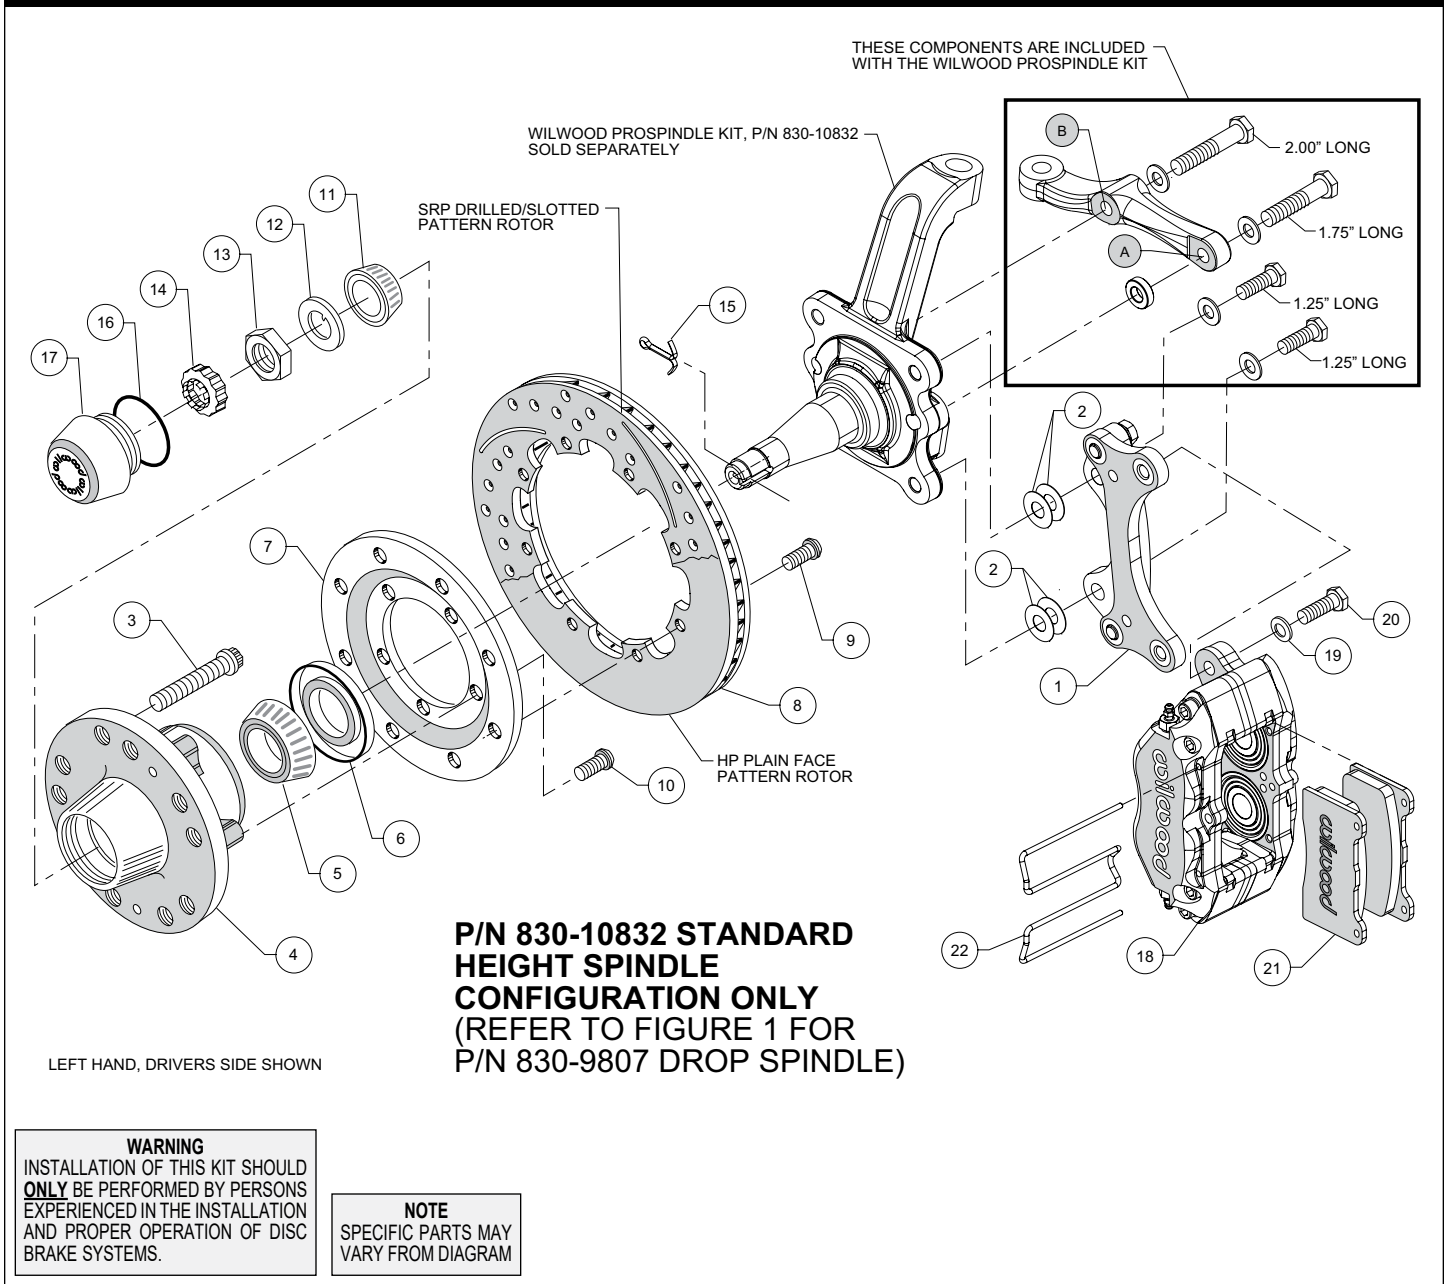

Figure 2. Installation Configuration For Standard Height Spindle, P/N 830-10832
**For Standard Height ProSpindle (P/N 830-10832):** The caliper bracket assembly (1) should initially be installed with clean, dry threads on the mounting bolts.
- Orient the bracket as shown in Figure 2 and Photo 2. Install using 1.25" long bolts and .06" thick washers (from ProSpindle kit), and two .016" thick shims (2) on each bolt between the bracket and spindle, Figure 2. Temporarily tighten mounting bolts.
- Orient the steering arm, and identify the hole marked 'A', as shown in Figure 2. Install using 1.75" long bolt, .06" thick washer, and .30" thick spacer (all from ProSpindle kit), Figure 2.
- Finish attaching the steering arm through the hole marked 'B', as shown in Figure 2. Install using 2.00" long bolt and .06" thick washer (from ProSpindle kit), Figure 2.
- Install wheel studs (3) into the hub (4), Photo 3. Torque to 77 ft-lb. **NOTE:** There are two lug patterns of five holes each in the hub (5 x 4.50 and 5 x 4.75). Make sure of the correct hole pattern for the wheel application before installing the studs into the hub.
- Pack the large inner bearing cone (5) with high temperature disc brake bearing grease (available from your local auto parts store) and install into the backside of the hub (4), Photo 4.
- Install the grease seal (6) by pressing into the backside of the hub (4), flush with the end of the hub, Photo 4.